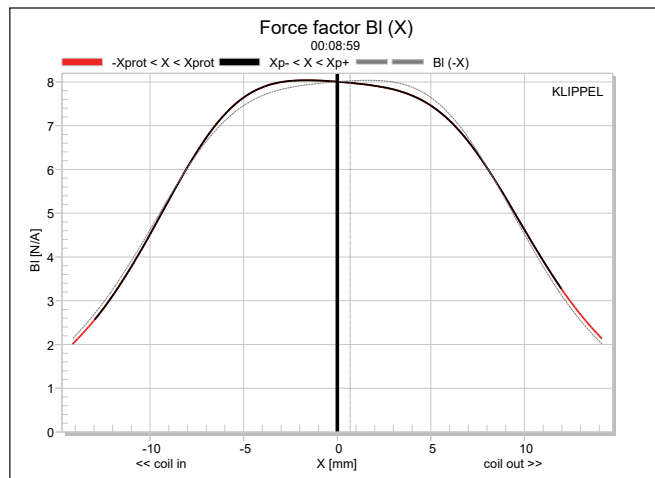
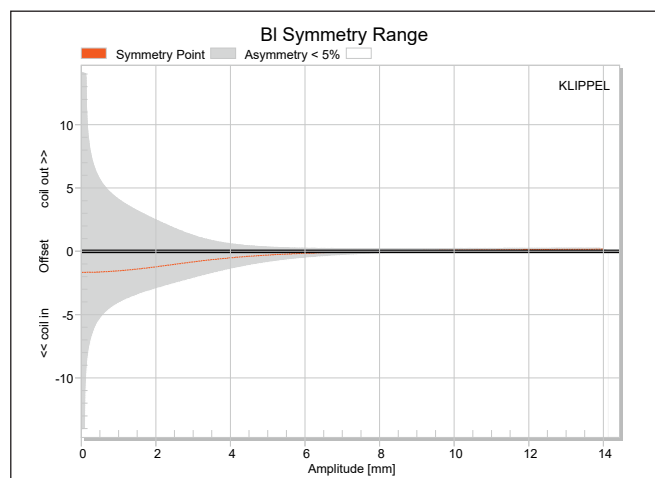

Figure 5: Klippel analyzer BI (X) curve for the Scan-Speak Ellipticor 21WE/4542T00
Figure 6: Klippel analyzer BI symmetry range curve for the Scan-Speak Ellipticor 21WE/4542T00
The BI(X) curve for the 21WE/4542T00 (see Figure 5) is mostly symmetrical with a small amount of tilt and coil-in offset, however this is fairly broad BI curve for an 8" woofer. Looking at the BI symmetry plot (see Figure 6), from an area of reasonable certainty (the grey overlay) at 4 mm, the coil-in offset is only 0.51 mm gradually decreasing coil-in offset to a meaningless 0.14 mm at the drivers Xmax +15% position (8.3 mm), which is no offset for all practical purposes.